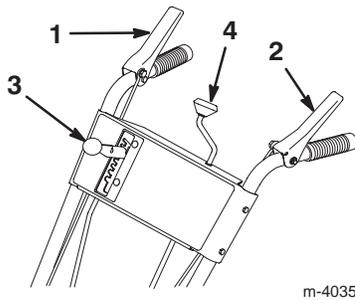

Figure 19
- **Auger/Impeller Drive Control Lever** (Fig. 19)—To engage both the auger and impeller, press the lever against the right handgrip. To disengage, release the lever.
- **Traction Control Lever** (Fig. 19)—To engage the traction (wheel drive), press the lever against the left handgrip. To stop the traction, release the lever.
- **Speed Selector** (Fig. 19)—This control has 7 positions: 5 forward and 2 reverse gears. To change speeds, move the speed selector to the desired position. The lever locks in a notch at each speed selection. The speed selector may shift with difficulty in heavy load conditions.
- **Discharge Chute Control** (Fig. 19)—Rotate the discharge chute control clockwise to move the discharge chute to the left; counterclockwise to move the chute to the right.
3. Release the auger/impeller drive control lever and the traction control lever (Fig. 19).
- Move the speed selector (Fig. 19) to first gear, squeeze the traction control lever to the handgrip, and then release the traction control lever. If the snowthrower moves forward before engaging the traction drive control lever or after releasing the lever, see Adjusting the Traction Drive Belt on page 22.
- Release the auger/impeller drive control lever and the traction control lever (Fig. 19).